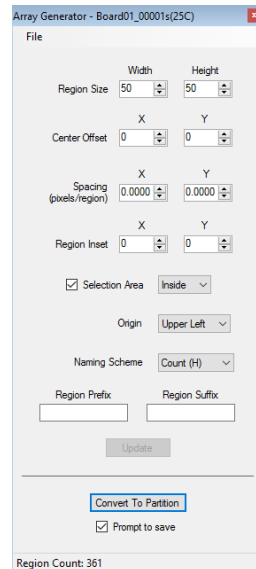

Figure 3.24 Array Parameters
2. By default, a grid of ROIs appear on the phase image. Also, a box with various array parameter options appear (**Figure 3.24**). The **height** and **width** refer to the individual dimensions of a single ROI. The **center offset** is the distance of the center of the full array from the center of the image. The **inset** refers to how much of the region is analyzed (useful if the solder array is smaller than the part border for instance). Each option affects all ROIs in the same way.